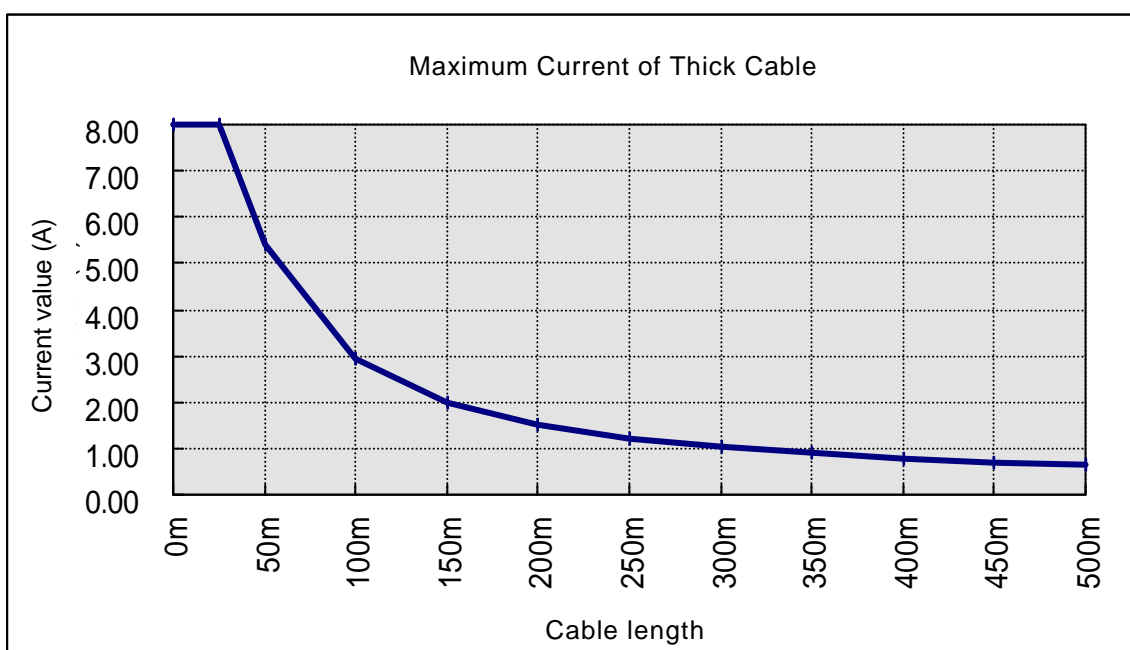
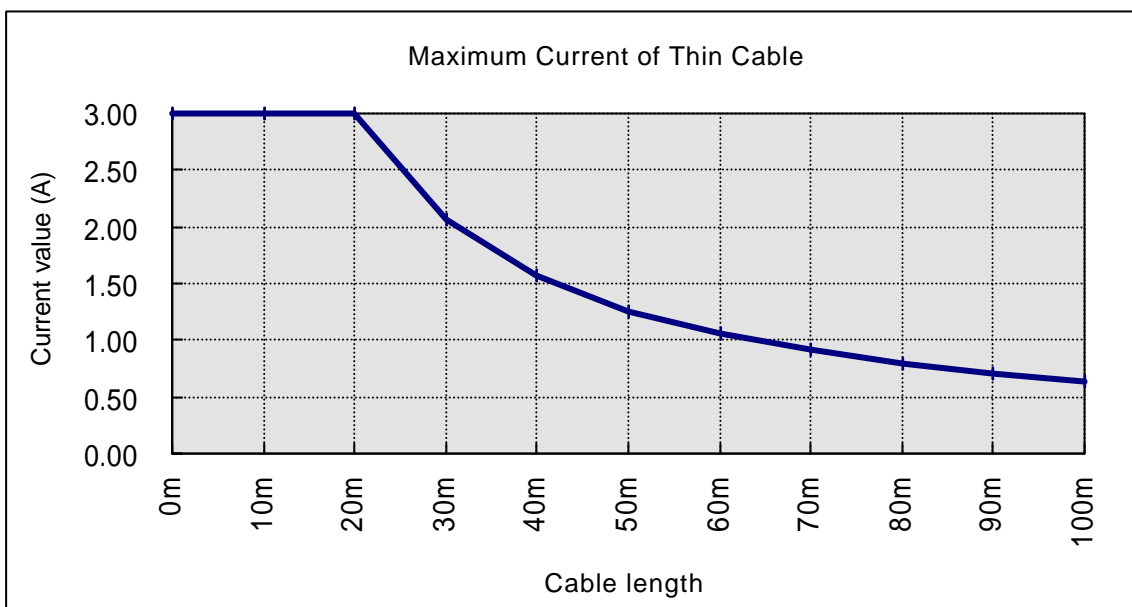

Figure 3.10 Current of the Trunk Line (thick cable)
Figure 3.11 Current of the Trunk Line (thin cable)
- Based on the cable type (thick cable, thin cable) used for the trunk line and the full length of the network obtained through procedure b), get the maximum current value available on the cable by using Figure 3.10 and Figure 3.11
- c) Maximum current available on the cable based on Figure 3.10 = approx. 2.56 A
- c) Maximum current available on the cable based on Figure 3.10 = approx. 2.56A (Obtain the approximate value between 100 to 150 meter straight cable.)
- c) Maximum current available on the cable in section 1, based on Figure 3.10 = approx. 2.19A